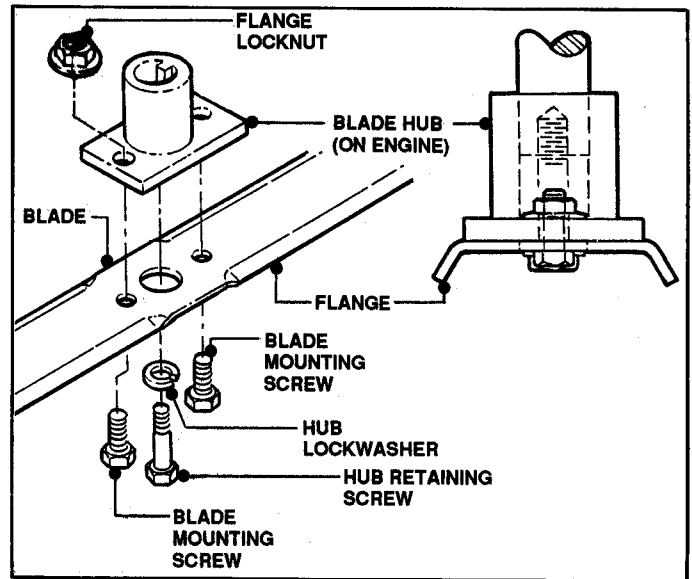

FIGURE 14
4. Reinstall sharpened blade and components as shown in Figure 14.
Install Blade EXACTLY as shown in Figure 14. Flanges on Blade face towards the ground.